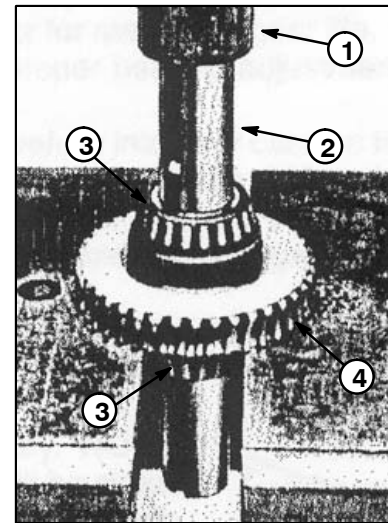

Figure 18
10. If worm gear (item 3) and bearing cones (item 2) are to be removed from output shaft, support bottom side of gear and press shaft down through one bearing cone and gear (Fig. 18). Remove key from shaft. Second bearing cone can then be pressed from shaft.